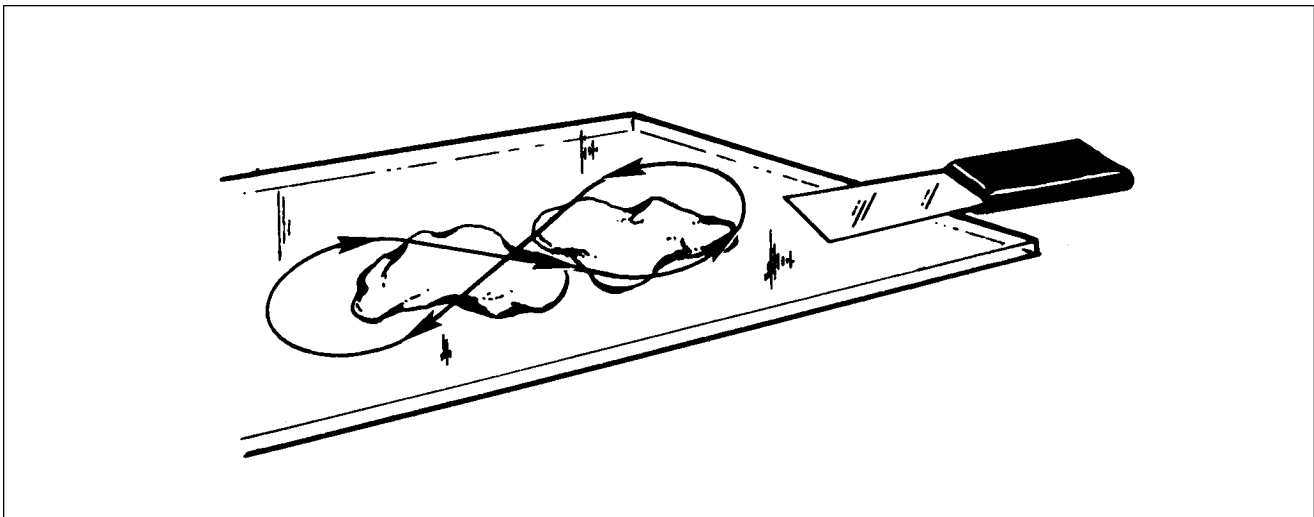

Figure 51-4. Mixing of Epoxy Patching Compound
- F. The patching compound is mixed in equal portions on a hard flat surface using a figure eight motion. The damaged area is cleaned with perchlorethylene or VM&P Naptha prior to applying the compound. (Refer to Figure 51-4.)